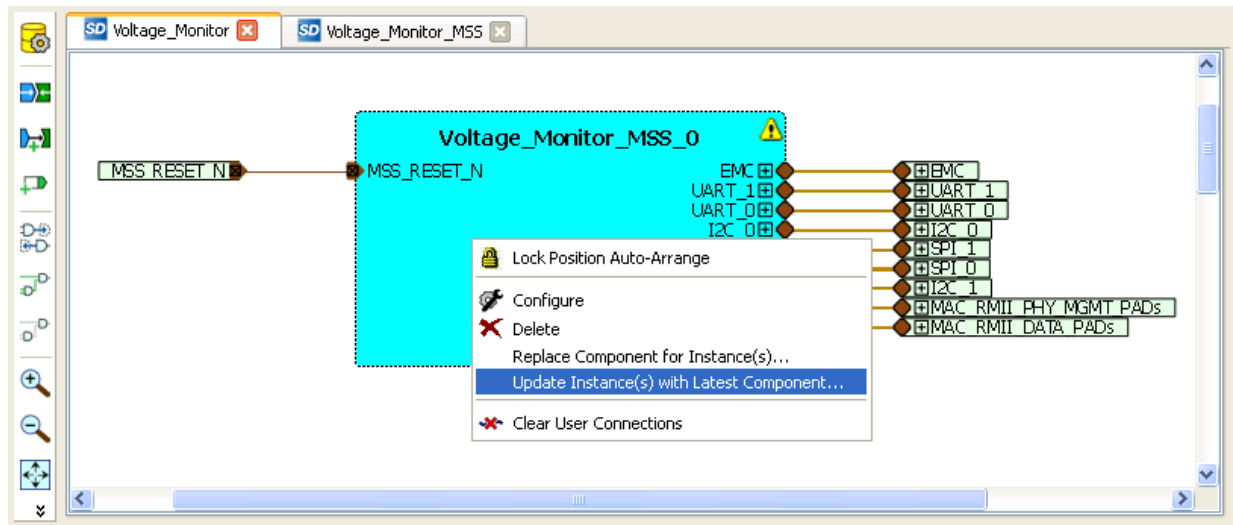

Figure 19 · Updating the MSS
1. Right-click on **Voltage_Monitor_MSS_0** component on the **Voltage_Monitor** tab and select **Update Instance(s) with Latest Component** as shown in Figure 19 .